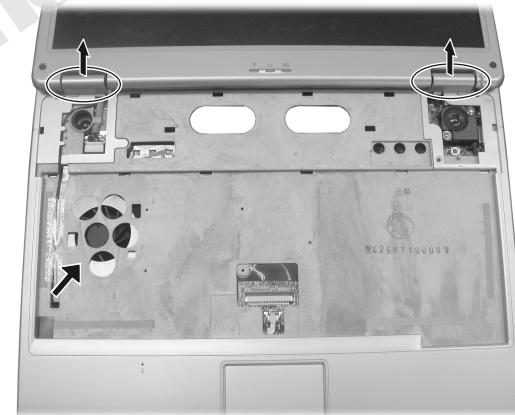

Figure 2-17 Remove the two hinge covers
3. Remove the two hinge covers, then carefully pull the antenna wires out. (Figure 2-17)